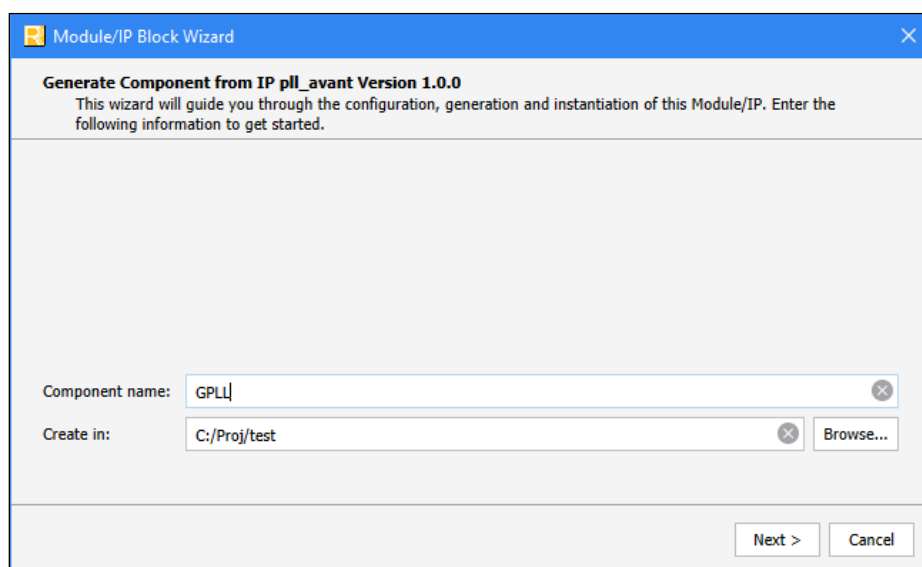

Figure 3.1. Configure Module/IP Block Wizard
2. In the **IP Catalog** tab, double-click on **PLL** under **Module, Architecture_Modules** category. The **Module/IP Block Wizard** opens as shown in Figure 3.1. Enter values in the **Instance name** and the **Create in** fields and click **Next**.
- Click **Finish**. All the generated files are placed under the directory paths in the **Create in** and the **Instance name** fields are shown in Figure 3.1.